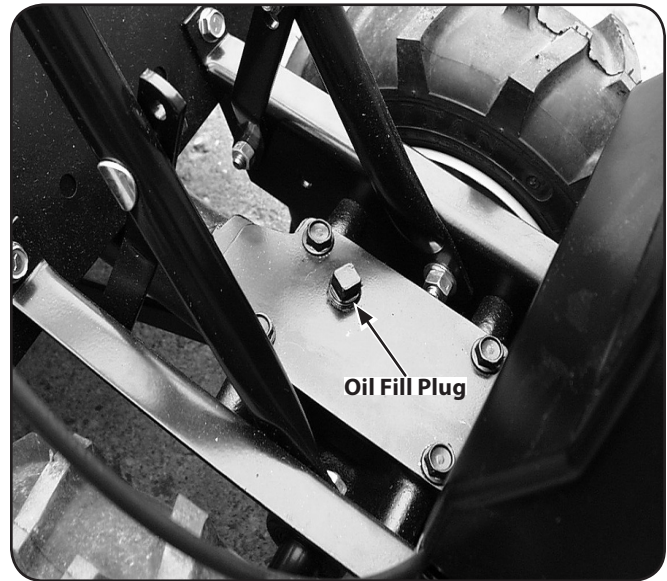

Figure 3-8
2. Remove the oil fill plug from the transmission housing cover and locate the main drive shaft situated inside the housing. See Fig. 3-8.